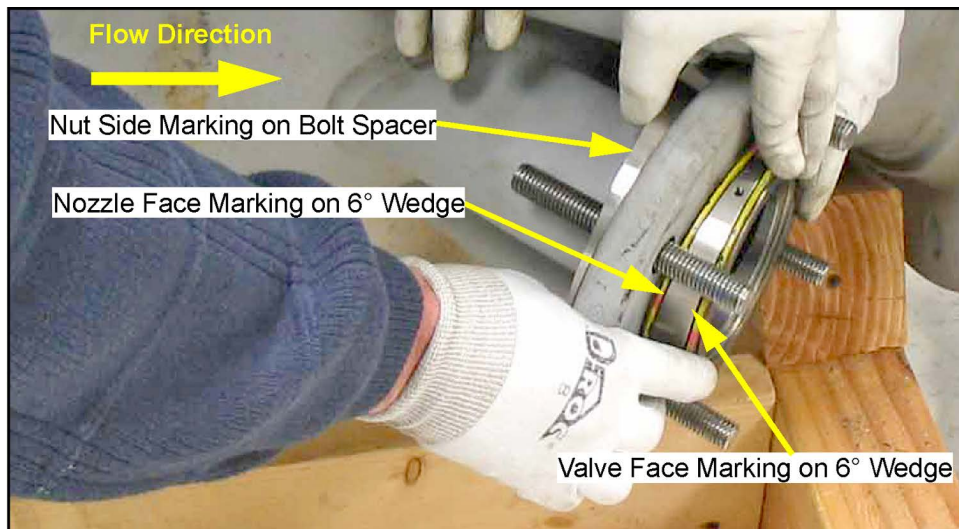

Figure 4: Mounting Bolts, Bolt Spacers, Wedge and Gaskets Positions
2. With the Nut Side marking facing the pipe, place the split bolt spacer halves over the bolts behind the flange, with the thin ends corresponding to what will be the thickest side of the other wedge (see Figure 4 below).
3. With the Nozzle Face marking facing the pipe and the Valve Face marking facing outward, hold the gasket/wedge/gasket combination in line with the insertion hole and oriented as shown in *Figure 4 on page 28*.